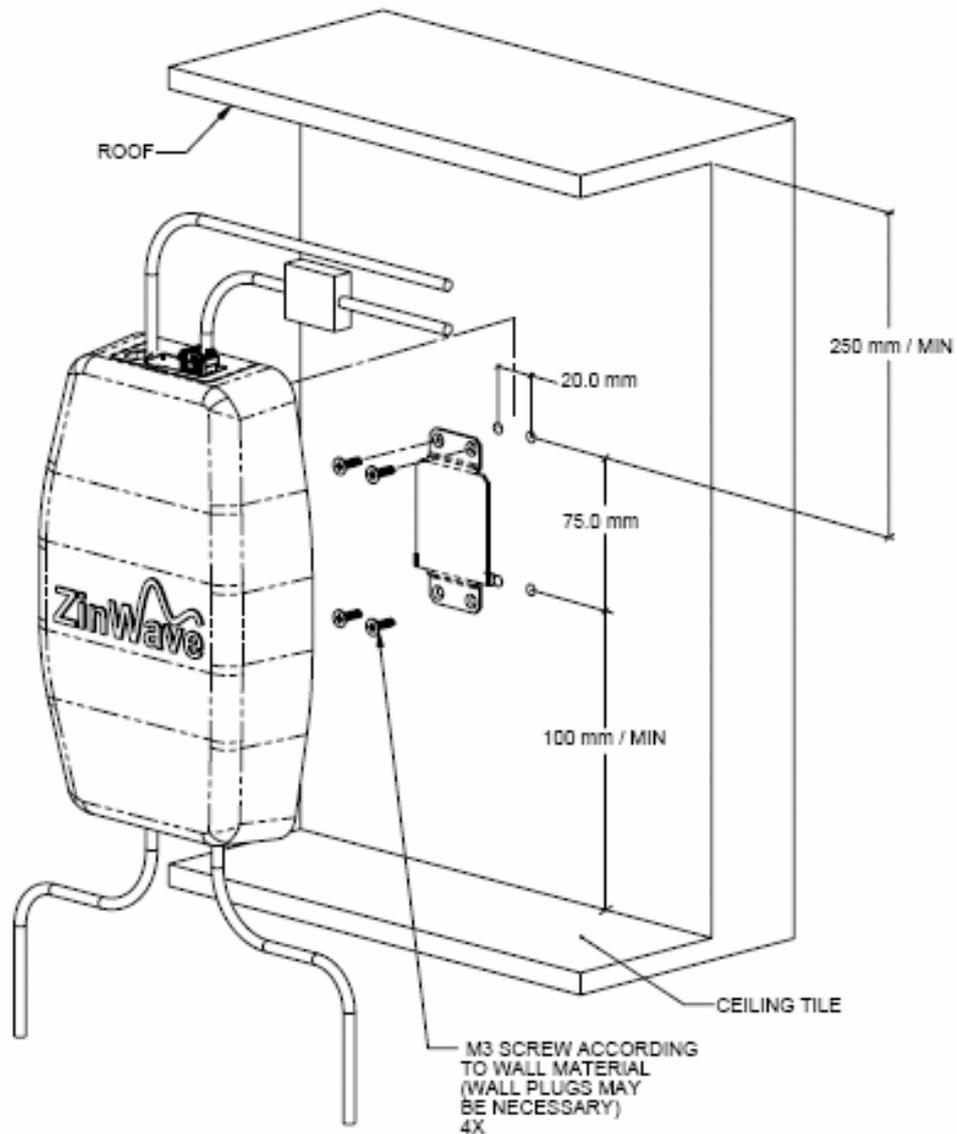

Figure 3-17: Mounting instructions for the 2760 AU.
- Allow space above and below the unit for adequate ventilation and to accommodate the minimum bend radius for the coaxial and fiber cables according to Figure 3-17
- To attach the mounting bracket, drill four holes into the wall, using the dimensions shown in Figure 3-17.